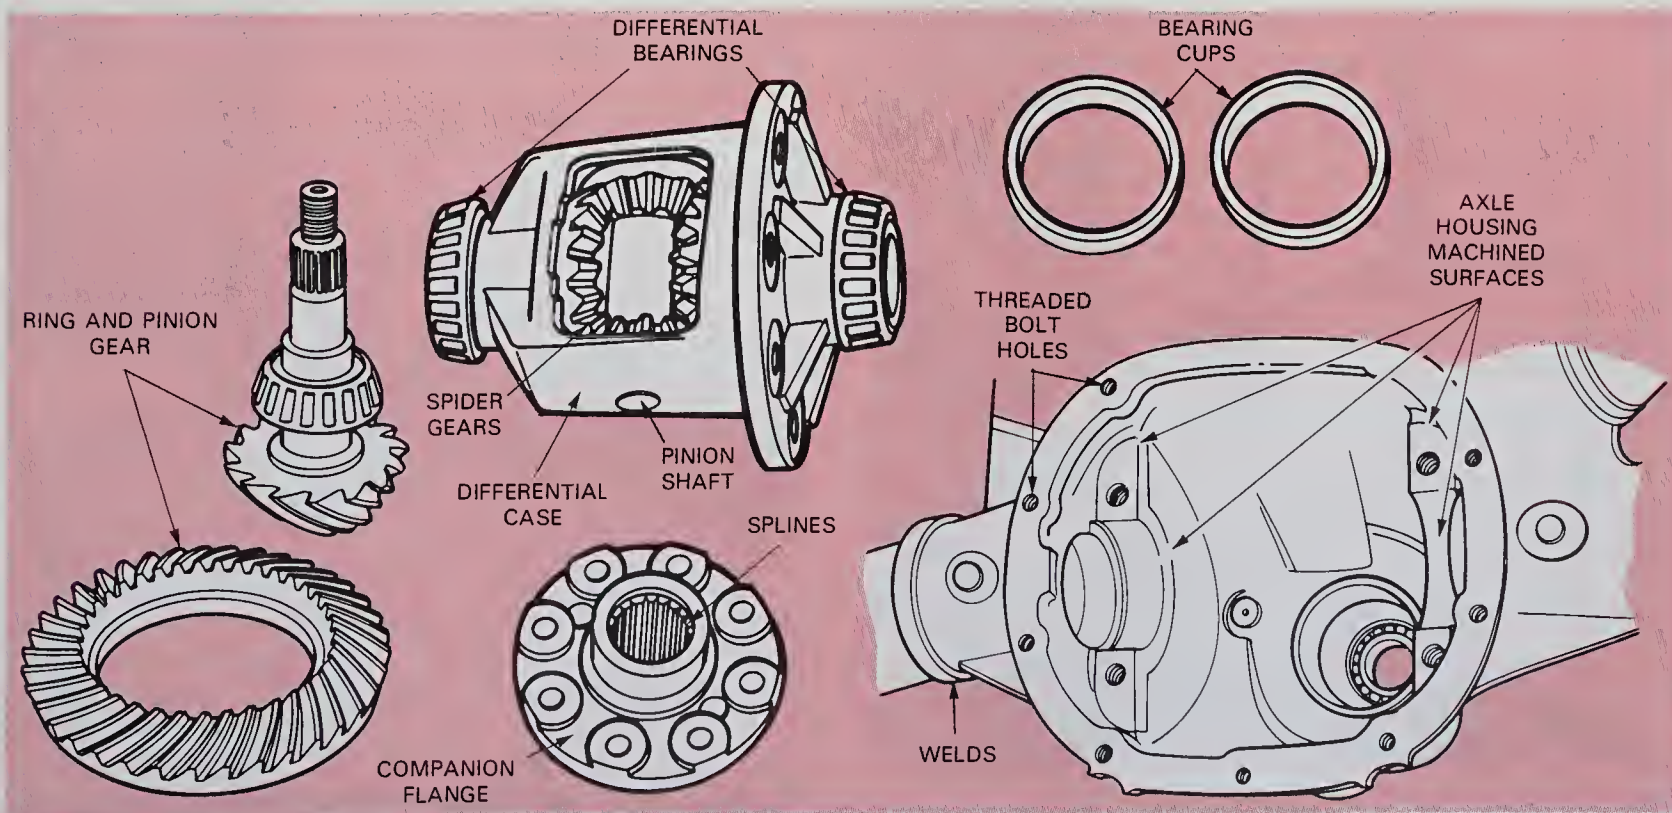

Fig. 59-13. Inspect all differential components carefully. If you overlook even one bad part, your repair could fail. (Ford)
2. Clean all parts carefully. Then, inspect them closely for wear or damage. Fig. 59-13 shows the most important parts needing inspection.